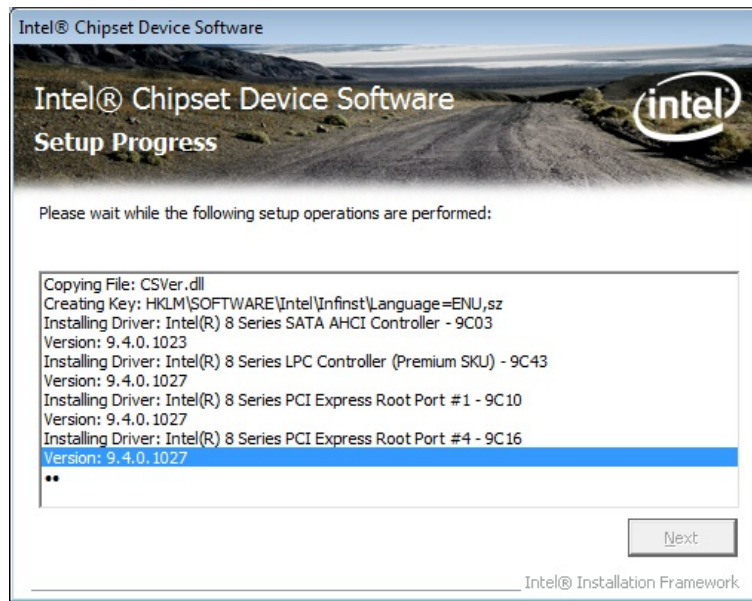

Figure 6-4: Chipset Driver Setup Operations
Step 11: **Setup Operations** are performed as shown in **Figure 6-4**.